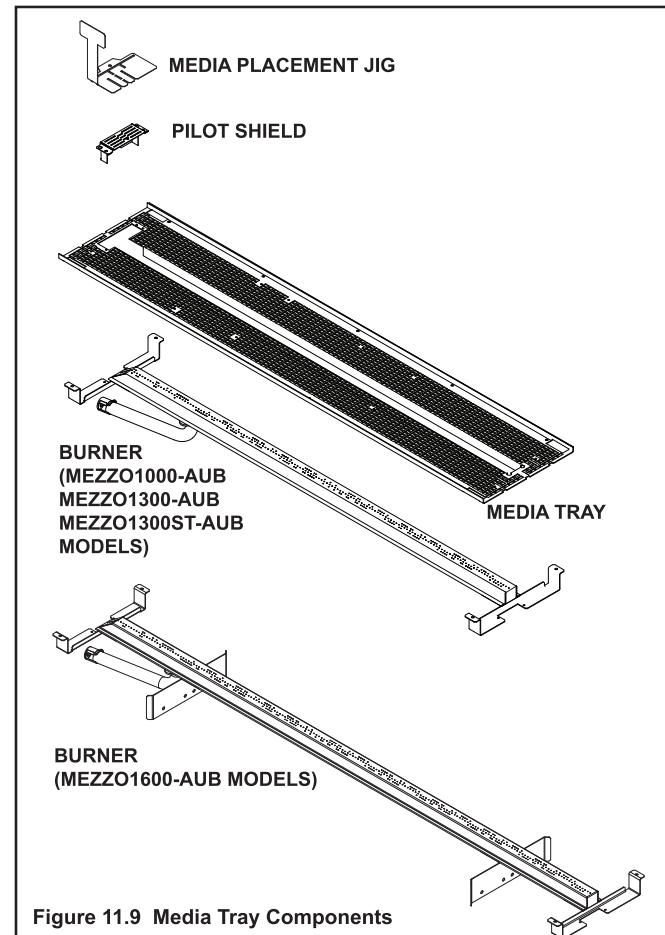

Figure 11.9 Media Tray Components
2. The included media placement jig, shown in Figure 11.9, MUST be used any time media are placed on the burner to ensure that none end up in the burner lighting area. Verify that the media placement jig is correctly installed in place in the appliance. See Figure 11.10.